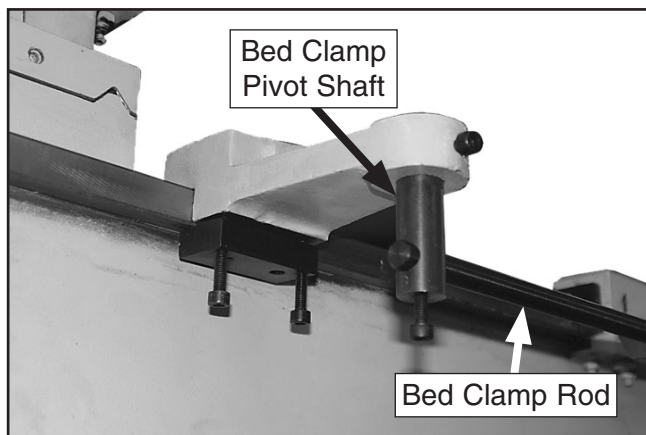

Figure 23. Bed clamp pivot pin installed.
37. Insert the round end of the bed clamp rod into the bed clamp pivot shaft, then insert the pivot shaft into the bottom of the bed clamp bracket, as shown in **Figure 23**.